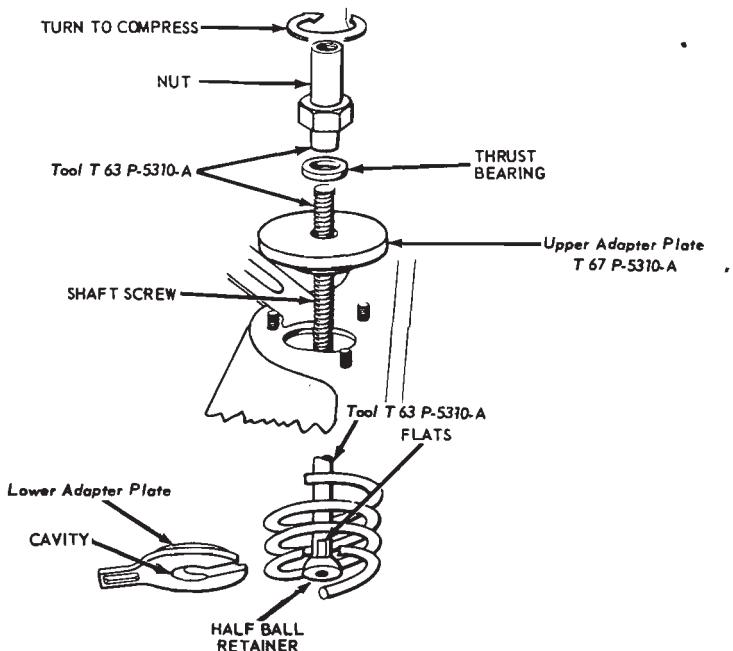

FIG. 10—Spring Tool Installation
5. Install the spring compressor tool as shown in Figs. 10, 11 and 12.
2. Position the spring in the spring tower. Install the spring compressor (Fig. 10) and compress the spring.